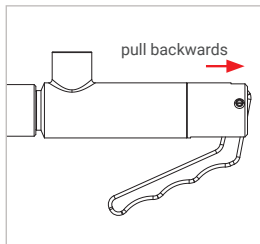

Figure 6
- ▶ Pull lightly on the connector (red arrow *Figure 6*) in the direction opposite that of the connection to make sure that the connector is firmly in place.